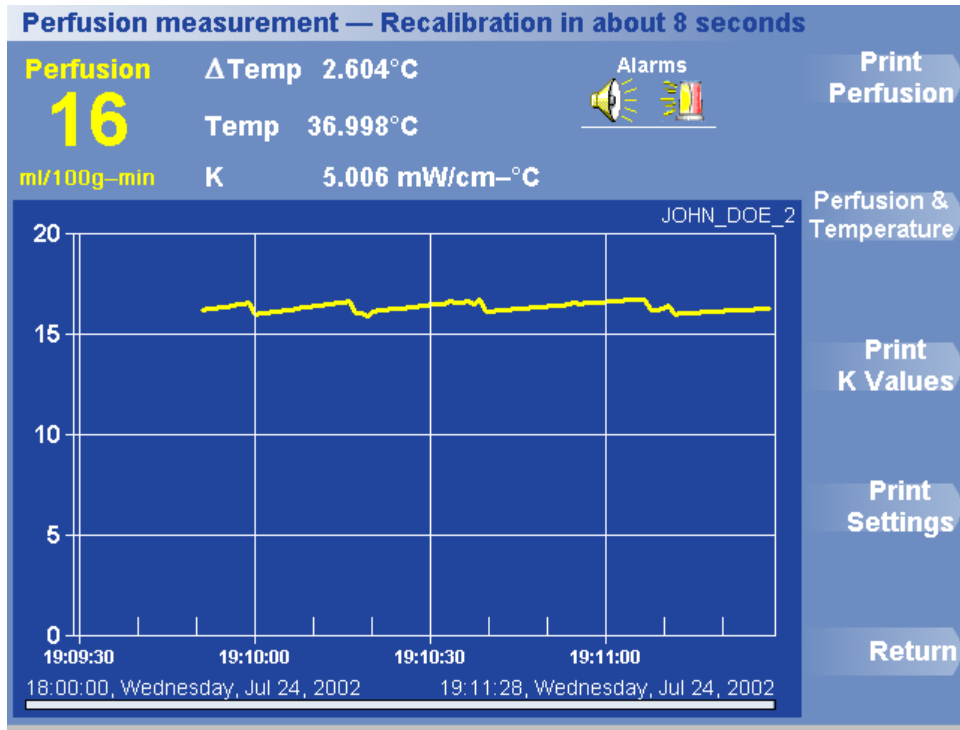

Figure 21. Print Menu
1. Press Print at the bottom of the Stop menu. The Print menu appears (Figure 21).